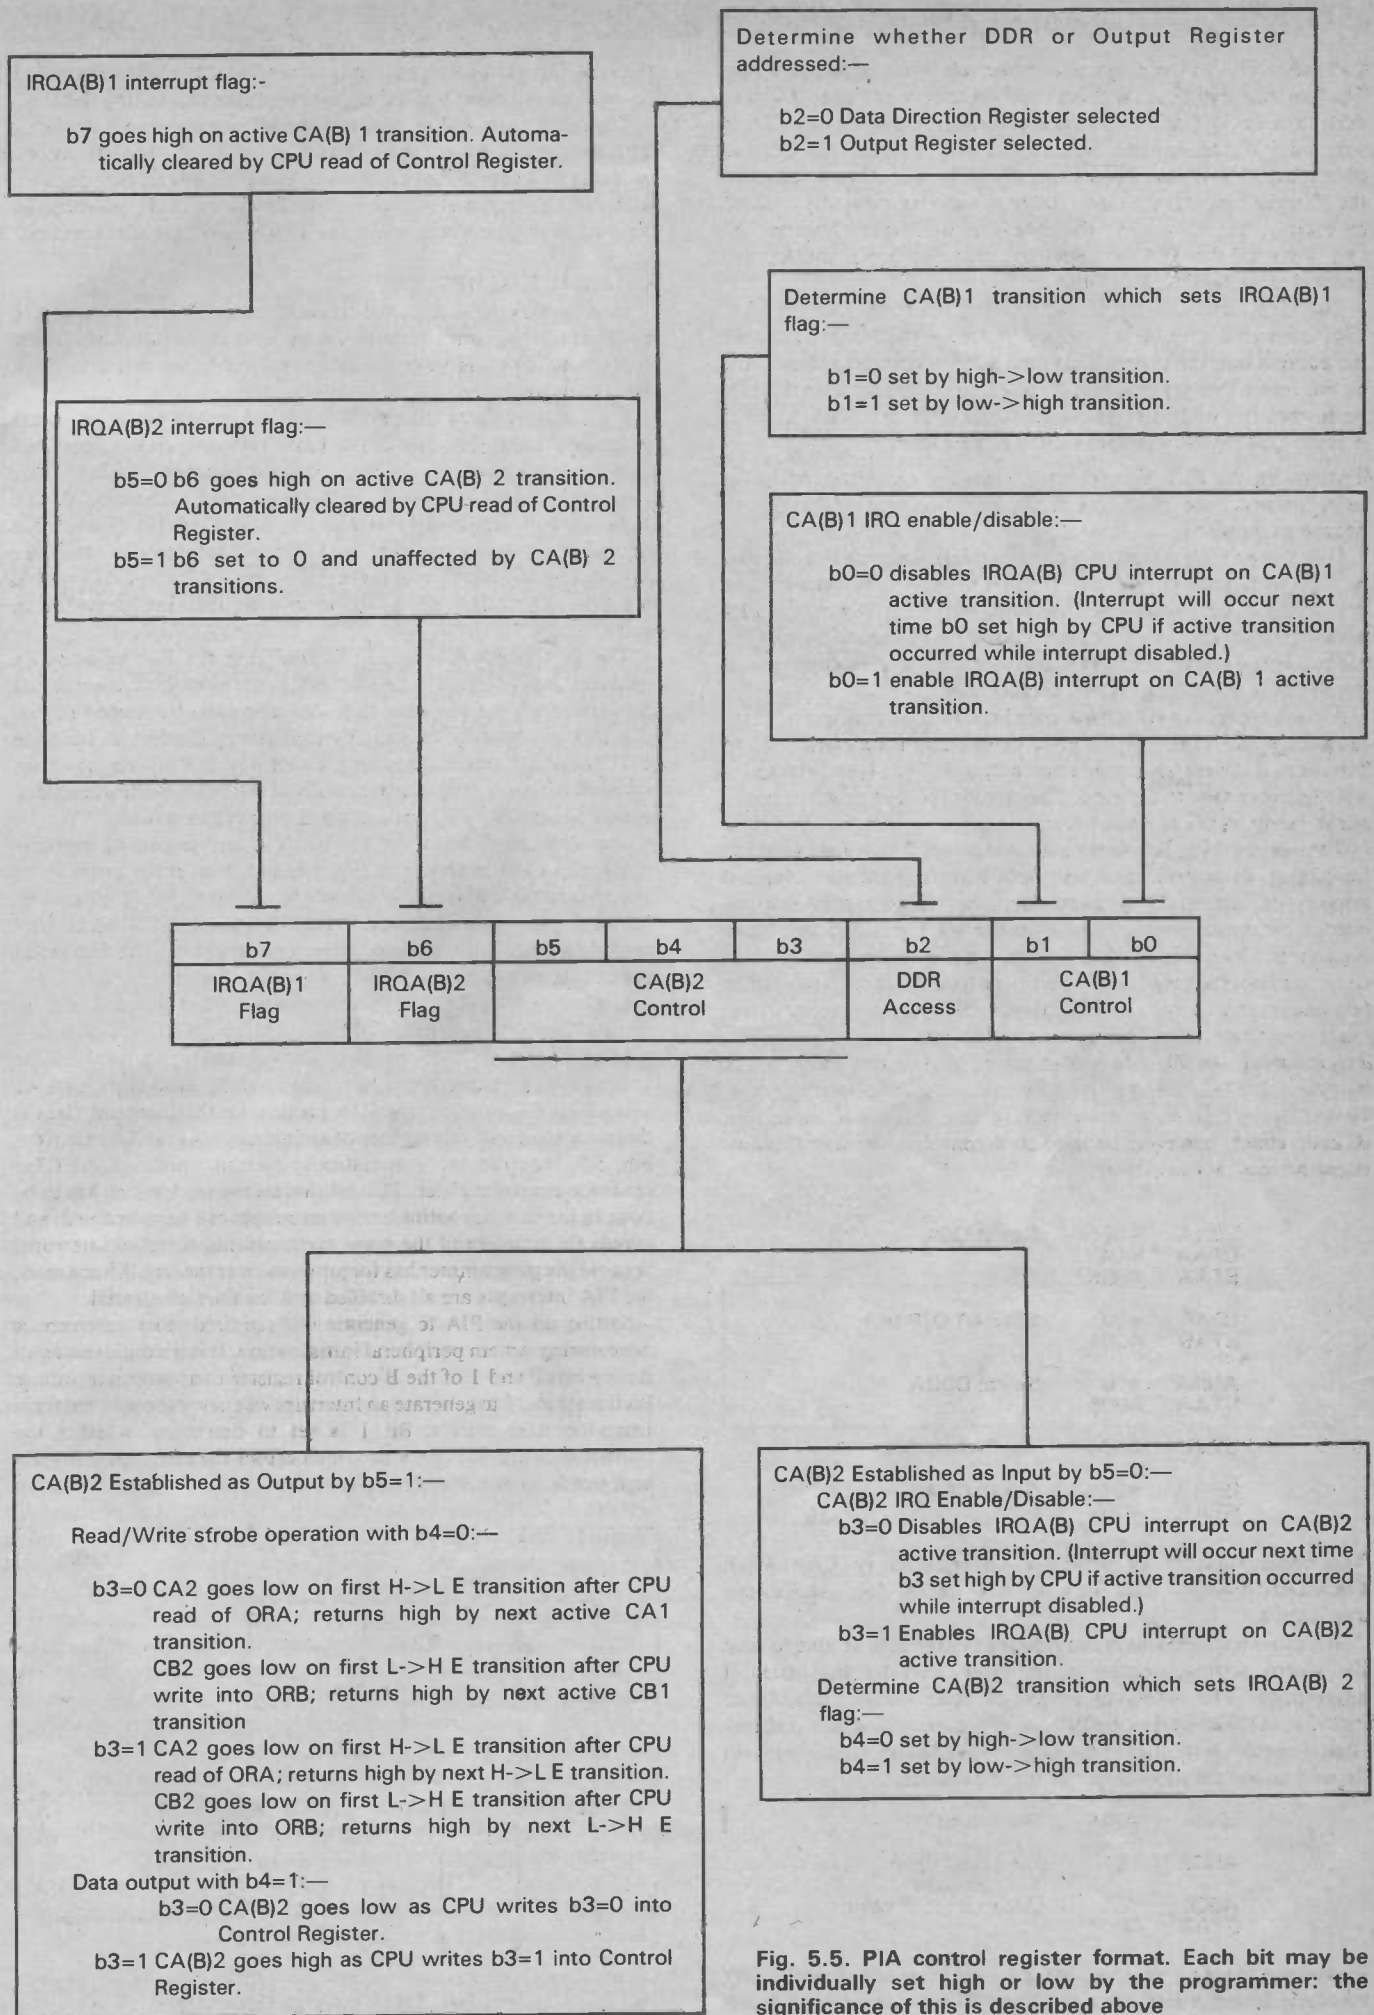

Fig. 5.5. PIA control register format. Each bit may be individually set high or low by the programmer; the significance of this is described above
The detailed structure of the PIA's A and B control registers (CRA and CRB) is shown in Fig. 5.5, and these really provide the key to interrupt-driven applications involving the PIA. From Fig. 5.5 we can see that, in addition to the DDR access bit (2) we have already been using, there are two other groups of bits. The first group control the action of the CA/CB lines (bits 0 and 1 for CA1/CB1, and bits 3 to 5 for CA2/CB2), while the second group act as the interrupt flags (bit 6 is the flag for CA2/CB2, and bit 7 for CA1/CB1).
Even if special interrupt processing hardware is used in the system, the PIA has only two interrupt outputs, shared by CA1/CA2 and CB1/CB2, respectively. The purpose of the interrupt flags is therefore to identify the source of an interrupt. As can be seen from Fig. 5.5, the flags are automatically cleared whenever the CPU reads the control register. This minimises the work which has to be done in the service routine before interrupts can be re-enabled, and avoids the problem of the same event causing repeated interrupts because the programmer has forgotten to clear the flag. After a reset, the PIA interrupts are all disabled and the flags all cleared.